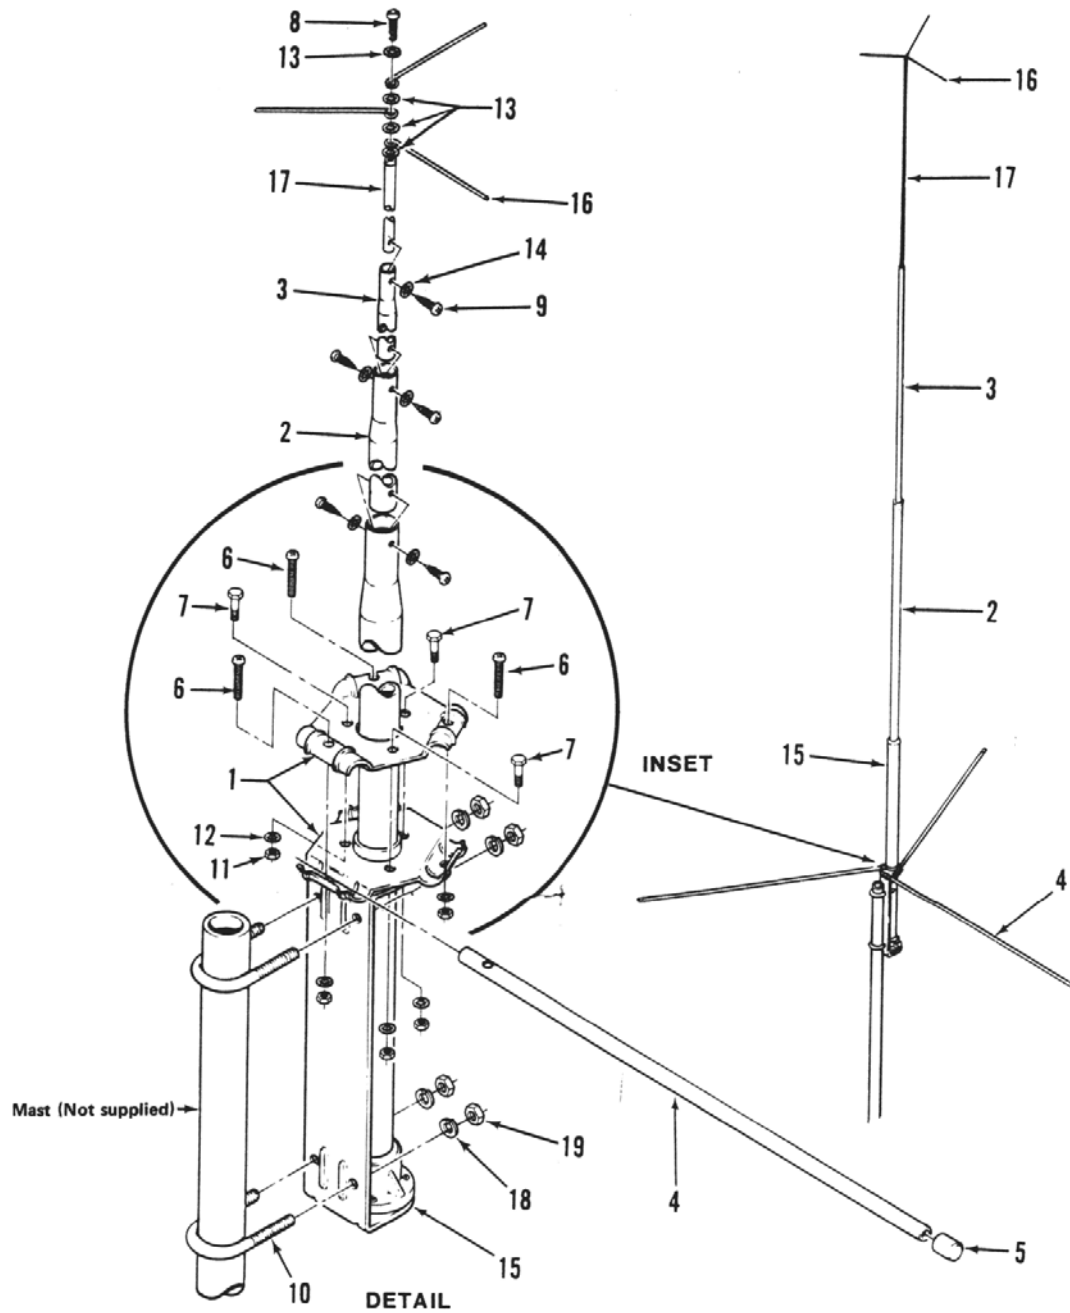

FIGURE 1.
We suggest that you read through the instructions first, then check the parts with the illustration (Figure 1) to see that everything has been included.
1. Select the Base and Tube Assembly (15) and the Radial Plates (1). Slip the Radial Plates over the Base and Tube Assembly as shown in the Inset in Figure 1.
2. Bolt the Radial Plates to the bracket and the plastic insulator with the three Hex Head Screws (7), three Large Lockwashers (12) and three Small Hex Nuts (11). Do not tighten at this time.
3. Insert the large end of the Large Tube (2) into the Base and Tube Assembly (15). Align the mounting holes and fasten securely with two Sheetmetal Screws (9) and two Small Lockwashers (14).
4. Insert the large end of the Small Tube (3) into the Large Tube (2). Align the mounting holes and fasten as in step 3 above.
5. Select the Top Radiator Assembly (17) and the three Top Hat Radials (16) and assemble as shown in the Detail of Figure 1. Use the Small Round Head Screw (8) and the four Medium Lockwashers (13).
6. Insert the Top Radiator Assembly into the Small Tube (3). Align the holes and fasten as in step 3.
7. Place the three Small Tubes (4) between the Radial Plates (1). Refer to the Inset in Figure 1. Fasten them securely with the Round Head Screws (6), the Large Lockwashers (12) and the Small Hex Nuts (11).
8. Place the three Caplugs (5) on the ends of the three Small Tubes (4).
9. Insert the two U-Bolts (10) into the Base and Tube Assembly bracket. Attach loosely with the two Split Lockwashers (18) and the two Large Hex Nuts (19).